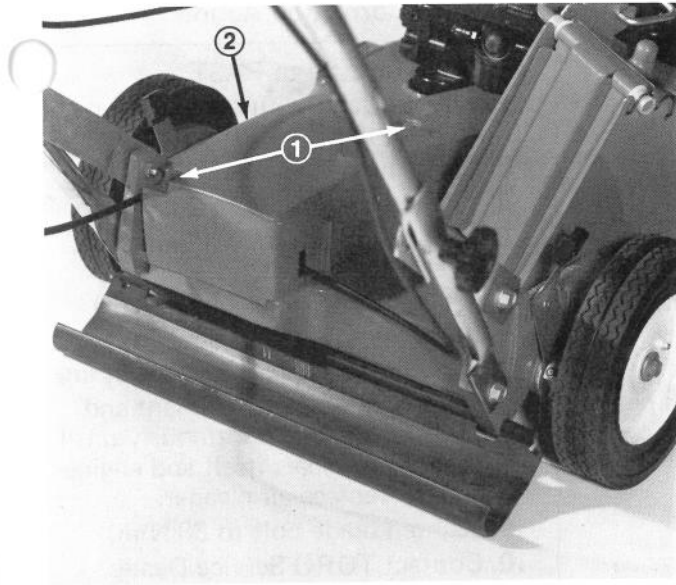

Figure 37
3. Remove two capscrews securing transmission cover and remove cover (Fig. 37).